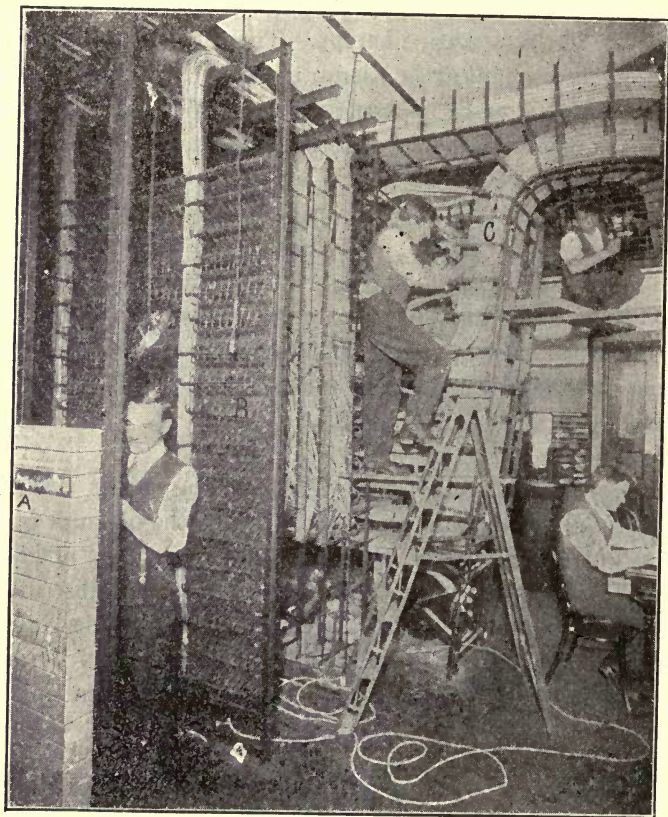

FIG. 95.—Terminal Room in an Exchange.
**265. Cables and Distributing Frames.**—Wires enter and leave the telephone exchange building in the form of cables (Fig. 95). A cable is composed of pairs of twisted copper wires, insulated with spiral wrapping and enclosed in a lead casing.